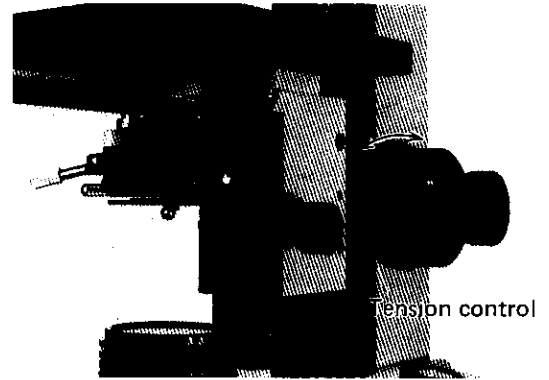

Fig. 3
9. The tension control knob (**Fig. 3**) is provided to allow the individual user to adjust the focus tension to his/her own preference.